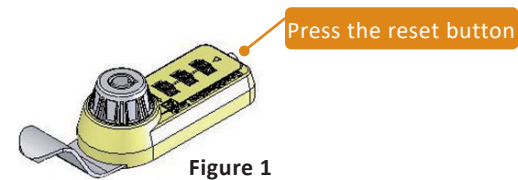

Figure 1
2. Push down and hold the reset button (as Fig. 1) until you have done the new code resetting. Turn the 3 wheels to your desired new combination code and release the reset button.